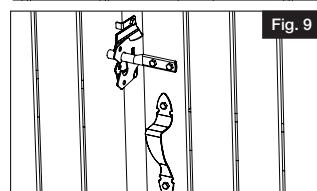

Fig. 9
- b. Fasten handle to gate with provided screws and tighten (Fig. 9).